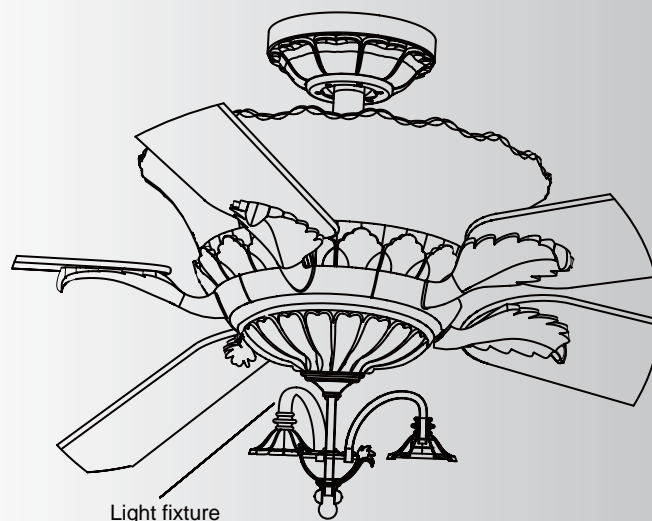

Fig. 3
3. Carefully push all of the wires into the Switch Housing. Align the keyholes on the light fixture with the screws on the mounting plate. Turn the light fixture counterclockwise and tighten all three screws . (Fig 3)